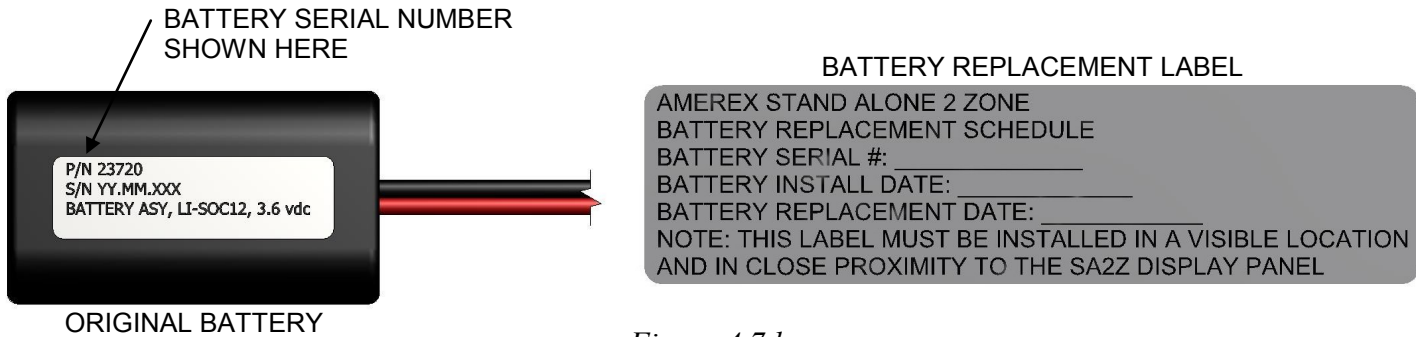

Figure 4.7d
**Step 10** - Each Operator Panel and Replacement Battery (P/N 23720) is supplied with a Battery Replacement Label. Locate the original battery (removed in step 1) and populate a Battery Replacement Label with that battery's serial number, current date of commissioning the system, and battery replacement date (one year from current date of commissioning) as shown (See Figure 4.7d). Disconnect and remove the Replacement Battery from the back of the Operator Panel cover on the circuit board. Then, connect the original battery in its place. Replace the Operator Panel cover using the four cover screws. Verify the green "SYSTEM NORMAL" LED is flashing once every 5 seconds.